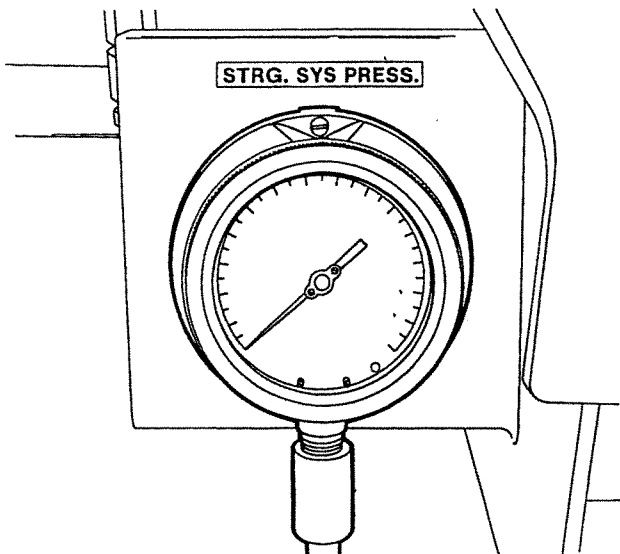

Figure 4-16. Steering System Pressure Gage (Lazarette, Frame 27)
2. Check steering system pressure gage (Figure 4-16).